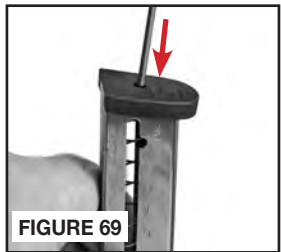

FIGURE 69
- Using a small tool like the hex wrench that comes in the box with the pistol, depress butt plate catch through the hole in the butt plate (FIGURE 69). Slide the butt plate forward a little bit while holding the catch down.